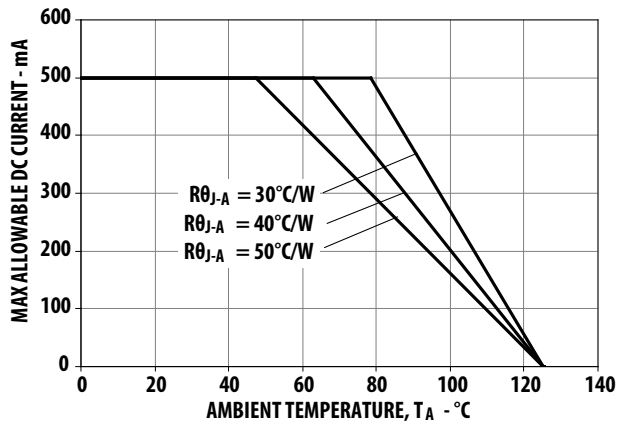
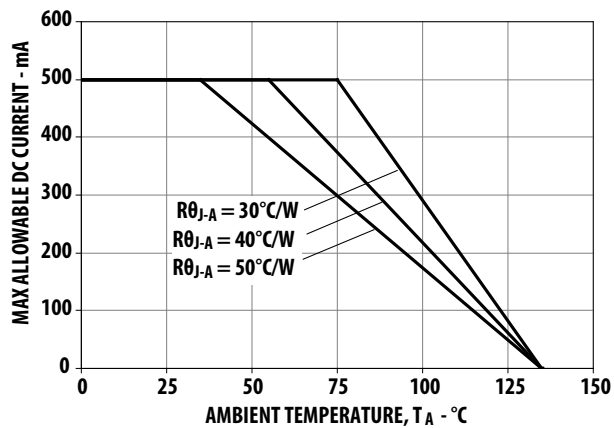

Figure 10. Maximum Forward Current vs. Ambient Temperature.
Figure 22. Maximum Forward Current vs. Ambient Temperature.
- Derate linearly based on Figure 10 for AlInGaP and Figure 22 for InGaN.